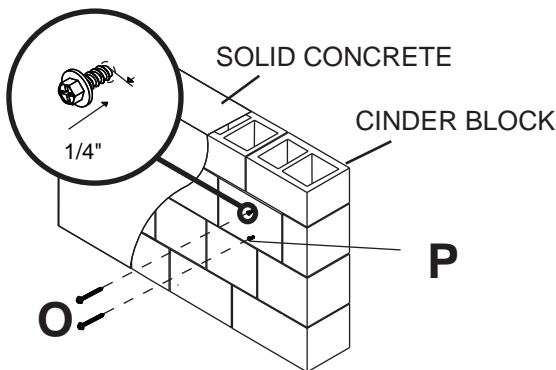

Figure 5.3
**5** Place wall plate (B) on wall as a template. Level, and mark the center of the three mounting holes. Drill three 5/16" (8 mm) dia. holes to a minimum depth of 2.5" (64 mm). Insert anchors (P) in holes flush with wall as shown. Fasten two #14 x 2.5" wood screws (O) leaving 1/4" of thread exposed as shown in Figure 5.3. Hook wall plate (A) onto exposed #14 x 2.5" wood screws (O). Secure using one #14 x 2.5" wood screws (O) as shown in figure 5.4.